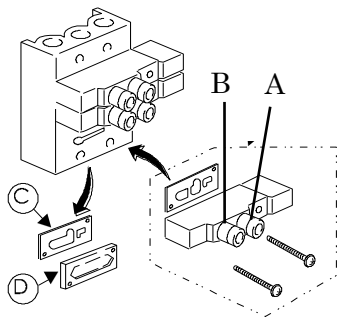

Fig.4
- (1) Turn the air pressure to 0 by turning the pressure adjustment knob of the filter regulator, and remove any residual pressure.
- (2) Remove the cover of the sewing machine body left side, remove the packing and C blanking plate D from the solenoid valve as shown in Figure 4, install the solenoid valve attached. At this time, attach the packing included with this in order to prevent air leakage.
- (3) Insert to match the symbols A and B of the air tubes to the solenoid valve and the Pneumatic 2-Step Tensioner ,as shown in Figure 4 and 5.
- (4) Secure the sewing machine left air tube using the cable ties of accessory.
- (2) Remove the packing and C blanking plate D from the solenoid valve as shown in Figure 4, install the solenoid valve attached. At this time, attach the packing included with this in order to prevent air leakage.
- (3) Insert to match the symbols A and B of the air tubes to the solenoid valve and the Pneumatic 2-Step Tensioner ,as shown in Figure 4 and 6.